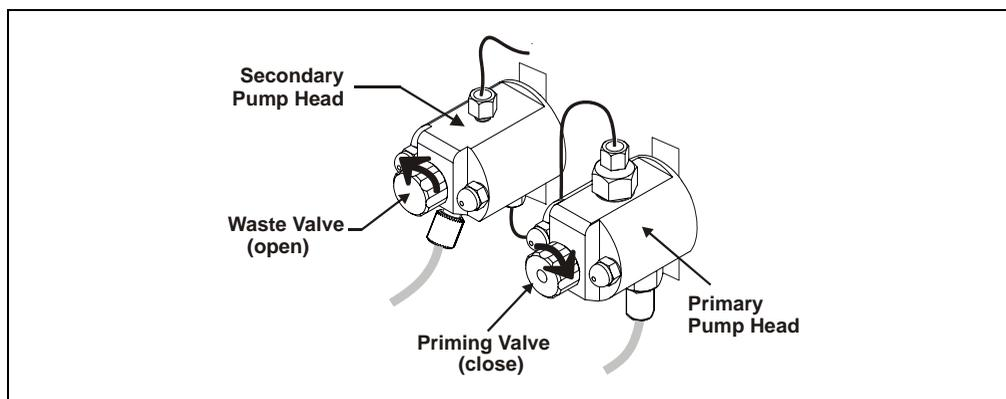

Figure 3-10. Priming the Pump
1. Verify that the priming valve on the primary pump head (see Figure 3-10) is closed (turned all the way clockwise).